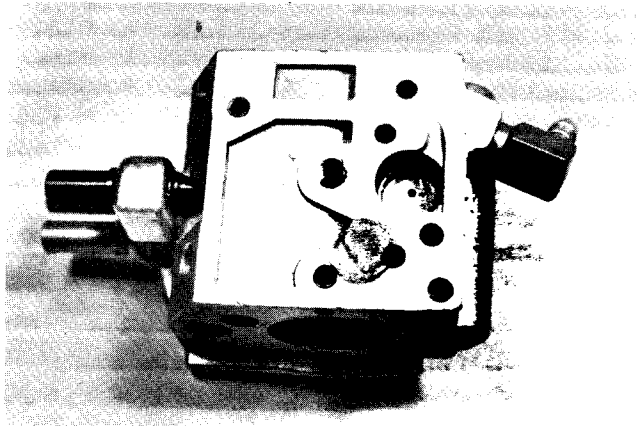

Fig. 52 — Screen Removed
2. Remove screens, Figs. 52 and 53.
6. Reinstall screens, Figs. 52 and 53.